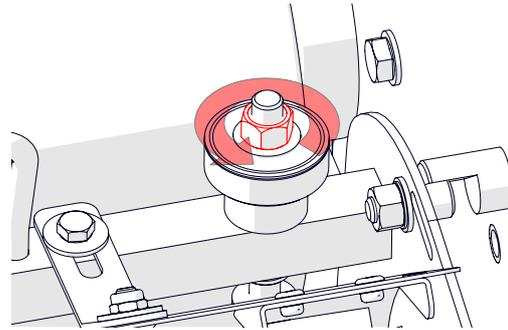

Fig.23C - Loosen the lock nut
5. Located at each end of a cassette are two shear blade adjusters. On the side being adjusted, loosen the lock nut [9/16" spanner] (Fig.23C).